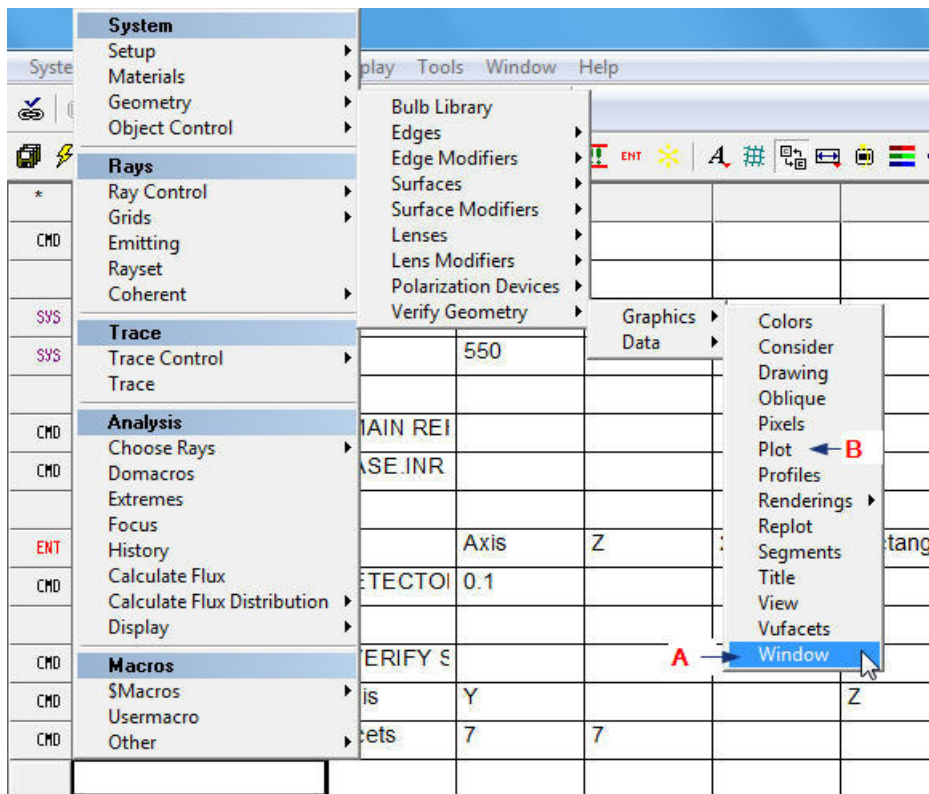

Figure 37 Adding plot commands to the Builder file
- 34 Set up a plot window by double-clicking an empty cell, and under **System**, click Geometry> Verify Geometry> Graphics> Window. See the red **A** marker in Figure 37.
- 36 In the cell below the Window row, follow the same path, but click **Plot** this time, which is the option for **PLOT FACETS**, and is referenced by the red **B** in Figure 37.